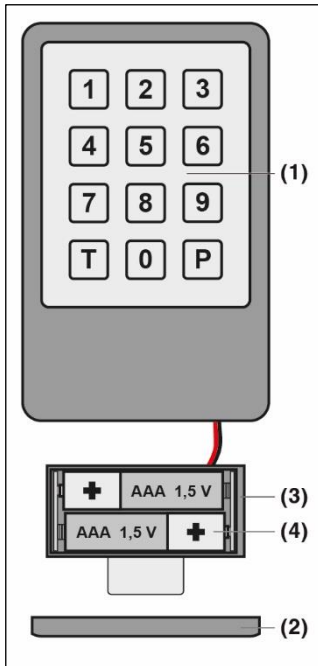
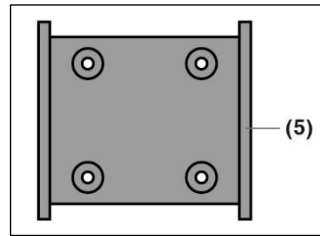

Fig. 1
Fig. 2
3 Device description (Fig. 1 and Fig. 2)
4.1 Installing the wireless keypad (Fig. 1 and 2)